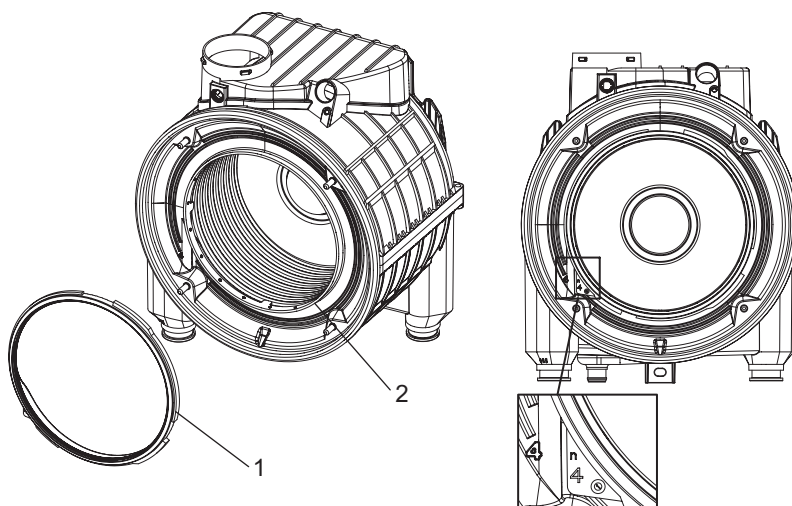

Fig. 7.7
7.6 REPLACING MANIFOLD SEALS - FIG. 7.7